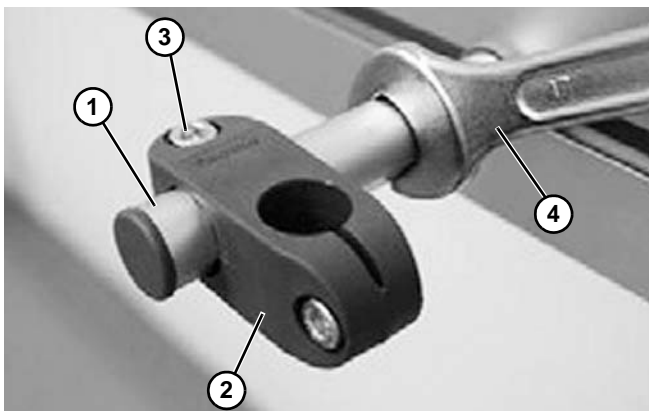

Figure 89
2. Attach the guide rail (Figure 89, item 1) to the clamp (Figure 89, item 2). Tighten the screw (Figure 89, item 3). Remember, do not over tighten the screw.
3. Use a wrench (Figure 89, item 4) to tighten the guide rail to the frame. Remember, do not over tighten the screw. Install remaining brackets.